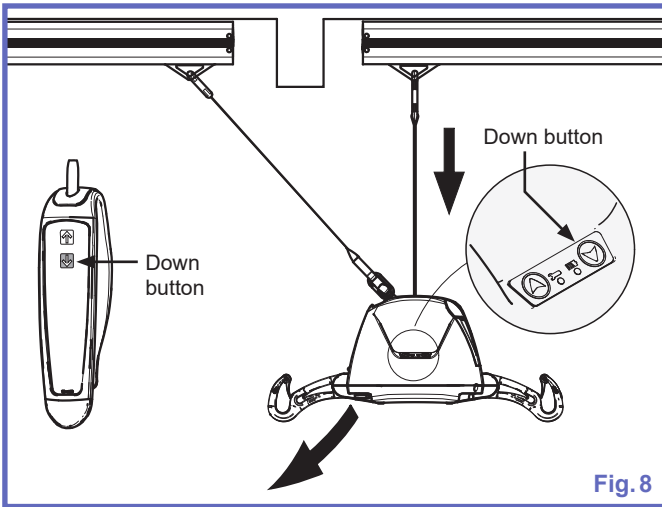

Fig. 8
- 3) Press the DOWN button on your hand control. This will pull slowly the unit and the patient towards your second point of transfer (see Fig. 8).